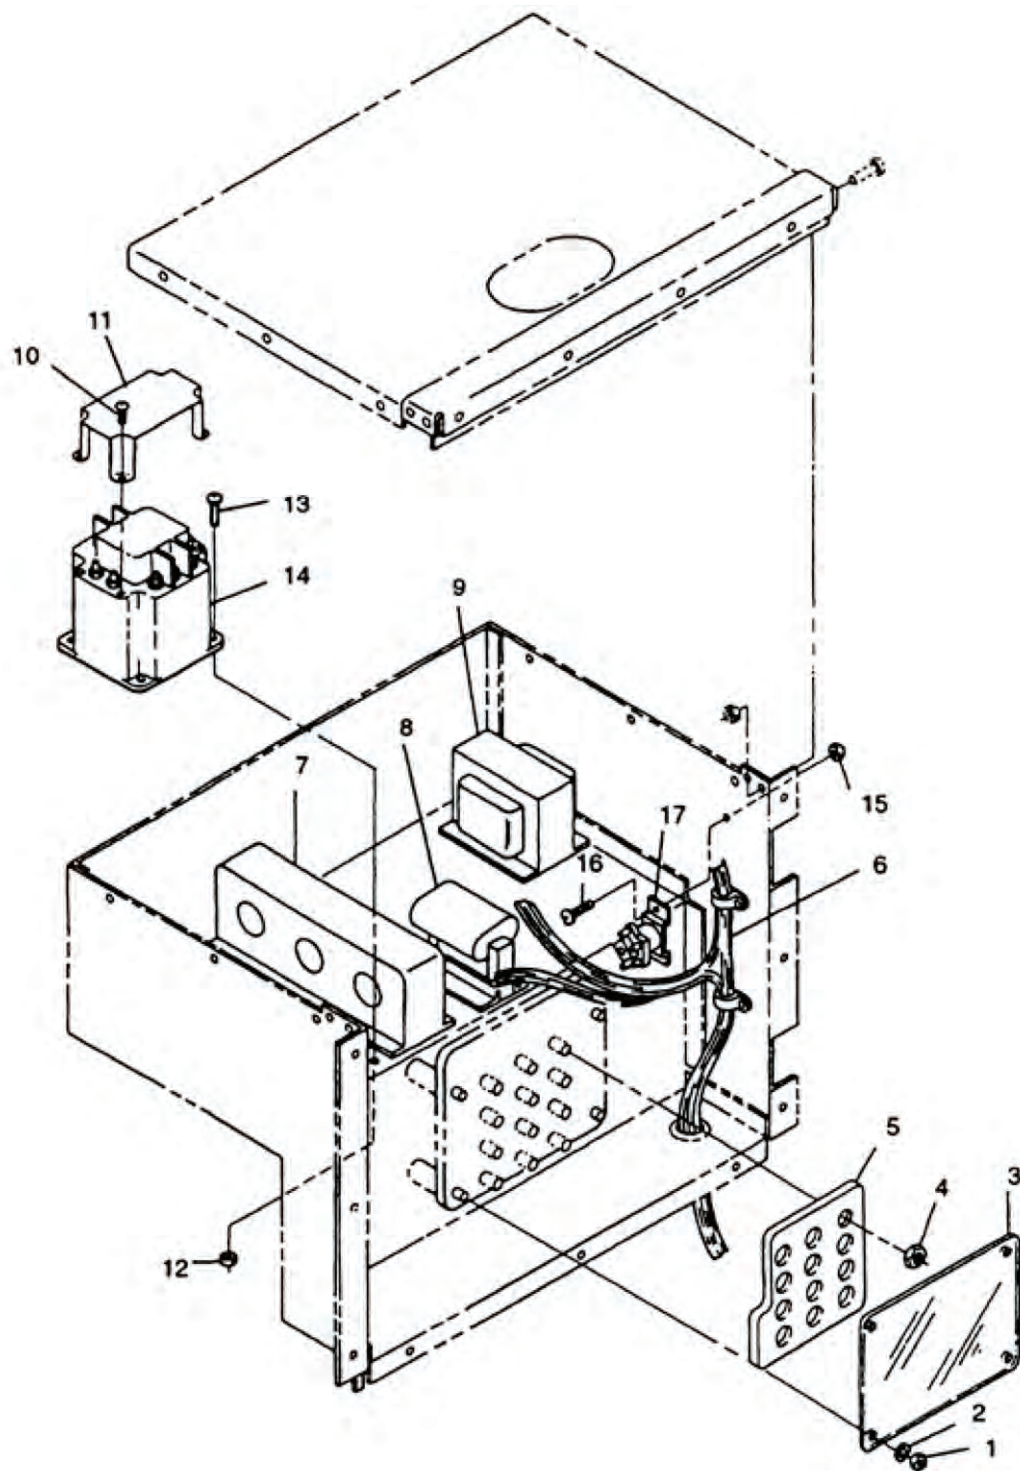

Figure 1. Output Box Assembly.
3. Inspect wiring harness (Figure 1, Item 6) for burned, bent, corroded, and broken terminals.
7. Open output box access door. Remove screws (WP 0098, Figure 1, Item 4) and cover (5) from AC circuit interrupter relay (40). Tag and disconnect electrical leads from cranking relay (43), current transformer (31), AC circuit interrupter relay (40), power potential transformer (37), and voltage reconnection board (18).
8. Tag and disconnect electrical leads for droop current transformer (34) from terminal board (25).
9. Remove screws (24) and nuts (23) securing terminal boards (25 and 26) in output box.
10. Remove all clamps securing output box harness (27) to generator set.
11. Remove output box harness (27) from output box and generator set.